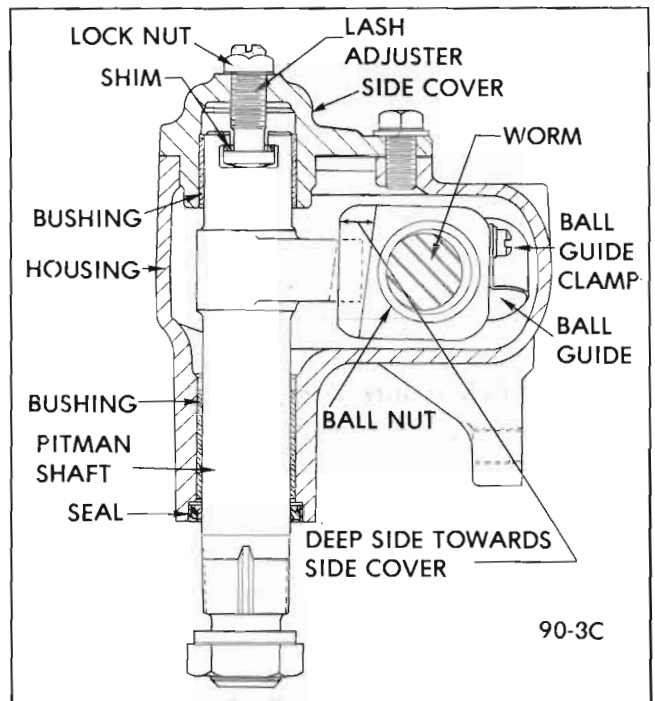

Figure 90-2 Steering Gear - Sectional View
Teeth on the ball nut engage teeth on the pitman shaft sector. The teeth on the ball nut are made so that a "high point" or tighter fit exists between the ball nut and pitman shaft sector teeth when front wheels are in the straight-ahead position. The sector teeth are slightly tapered so that a proper lash may be obtained by moving the pitman shaft endways by means of a lash adjuster screw which extends through the gear housing side cover. The head of the lash adjuster and a selectively fitted shim fit snugly into a T-slot in the end of the pitman shaft, so that the screw also controls end play of shaft. See Figure 90-2.
1. Position ball nut over worm shaft so that deep side of teeth will be toward side cover when installed in gear housing. See Figure 90-2. Install 19 balls in each circuit (rock worm shaft slightly to aid in installing balls). Place 6 balls in each return guide, using grease to hold balls in place. Install return guides, clamp and screws. Rotate worm through its complete travel several times to insure balls are installed correctly and rotate freely.